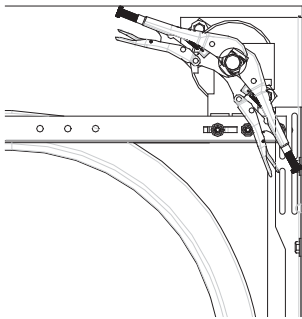

Fig: 3.6.2
- a) Secure the torsion bar using 2 pipe wrenches as shown in Fig 3.6.2.